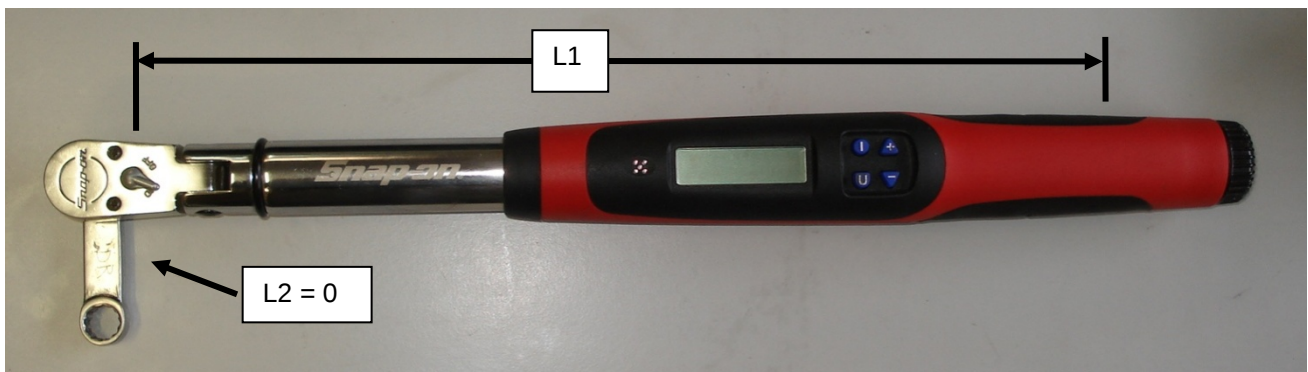

Figure 7 – Torque Wrench & Crowsfoot Adaptor Setting 2
- If the extension is oriented at 90° to the wrench as shown in Figure 7 then no correction is needed because L2 is zero.